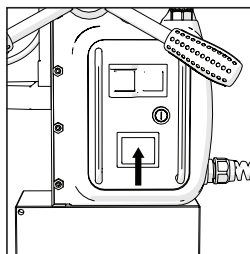

FIG. 4a
- Operate the red rocker switch on the machine's switch panel to energise the magnet. **(Fig. 4a)**